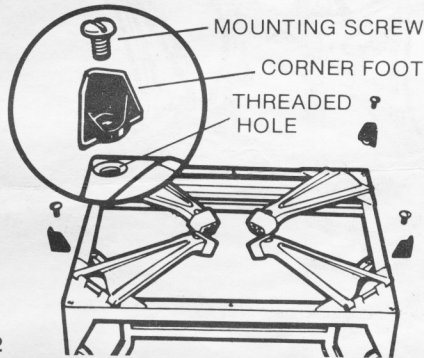

FIG. 2
Assemble the four (4) corner feet using the mounting screws provided as shown in Figure 2.
Place the base and vise bracket assembly on the floor as shown in Figure 2. Extend base legs and push the rubber feet onto the legs with the thick section towards the outside as shown in Figure 3. If necessary, a light tap with a hammer will seat the rubber foot.